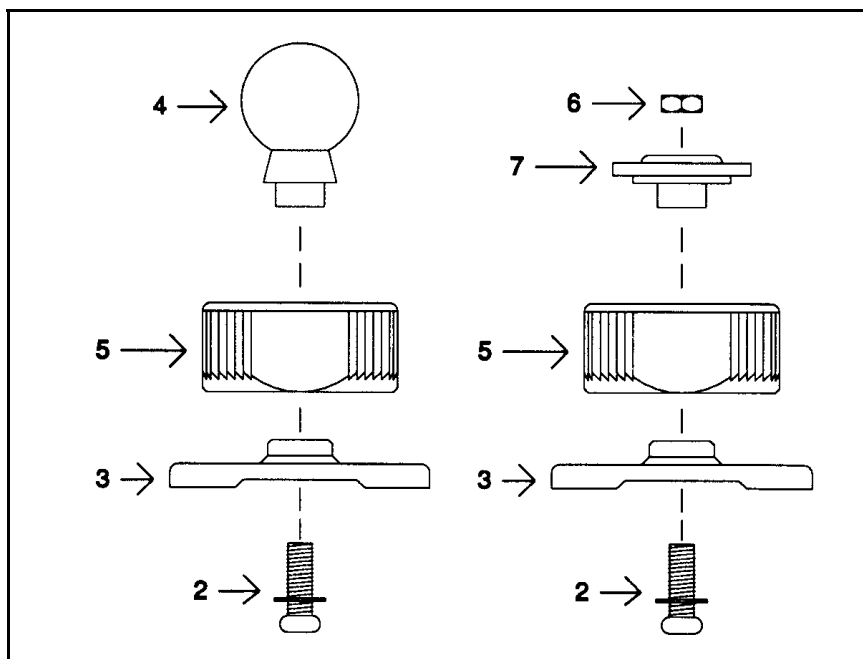

Figure 7 - Handset Holder Base Breakdown
3. Loosen the large knurl nut (item 5 in Figure 7) on the underside of the holder to position the holder to a comfortable position.
The positive latch handset holder may be installed as a swivel unit or as a low profile unit. To convert to the low profile unit refer to Figure 7 and perform the steps below.